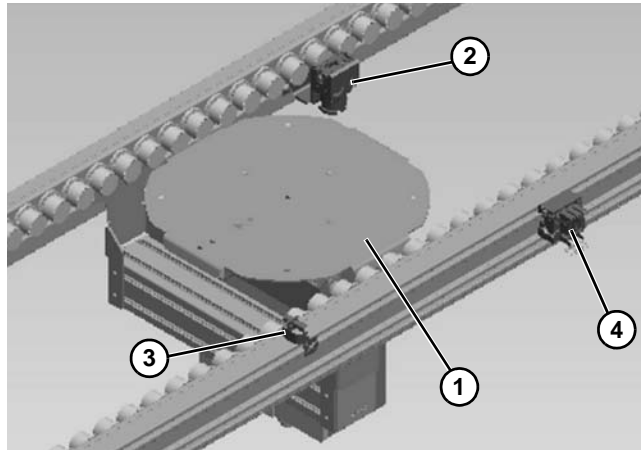

Figure 48
1. Install and adjust Lift and Rotate module (**Figure 48, item 1**).
2. Locate and install pallet stop (**Figure 48, item 2**). (Refer to “Pallet Stops” starting on page 6.)
3. Locate and install pallet sensor (**Figure 48, item 3**). (Refer to “Sensor Mounts” starting on page 6.)
4. Install and connect pneumatic solenoids (**Figure 48, item 4**), provided by others.